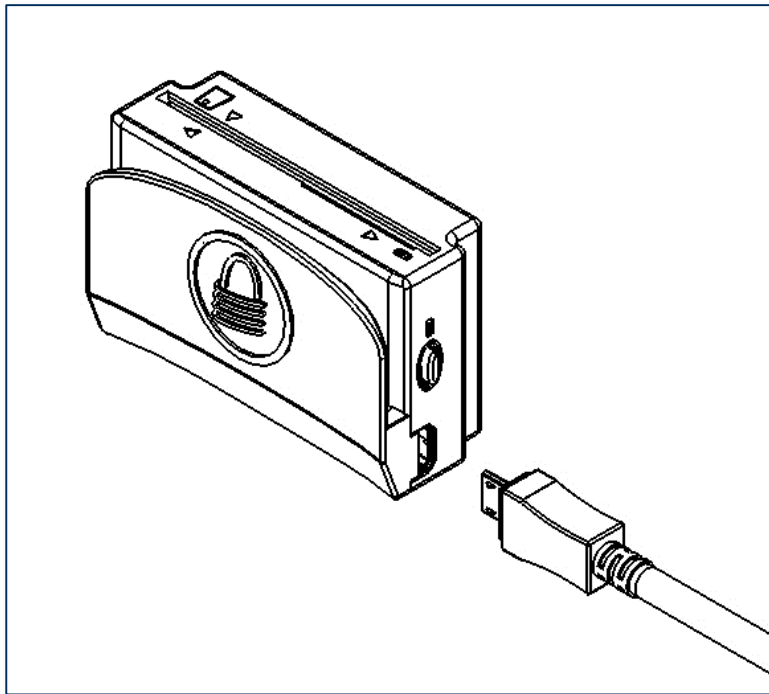

Figure 2-1 - Connecting eDynamo to a Computer
- 1) Connect the small end of the USB cable to eDynamo as shown in **Figure 2-1**.